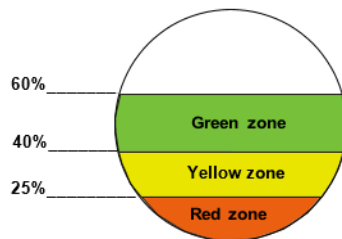

Figure 35: Sight glass level control zones
**Figure 35** below depicts the sight glass level control zones. **Table 15** describes the LED code legend. **Figure 36** shows the OM5 TraxOil mounted on the compressor.